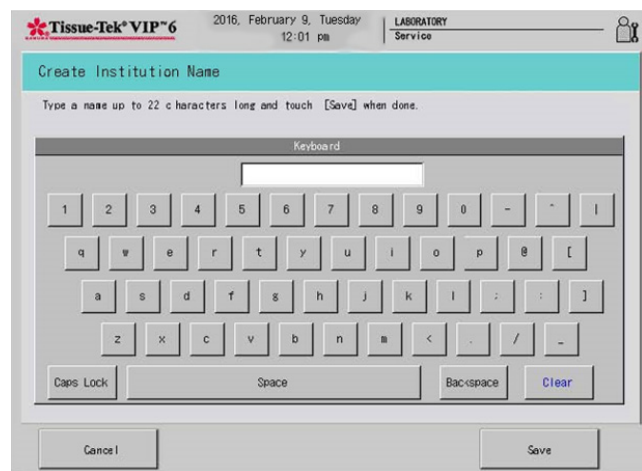

Figure 3-Q
- The Create Institution Name screen displays (Figure 3-Q).